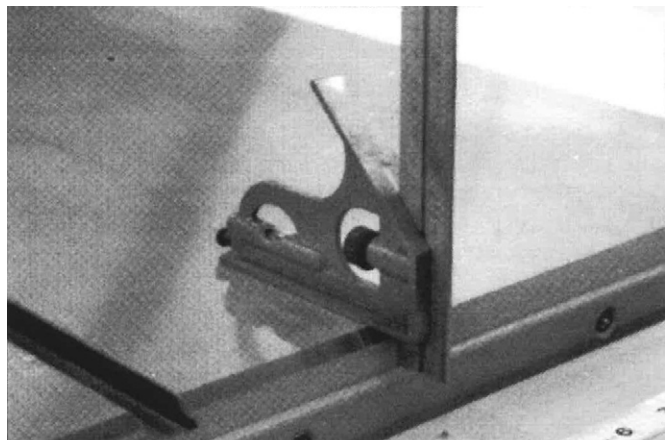

Figure 2
3. Place the combination square on the table and adjust the rail to be 9/16" below the table surface. Refer to Figure 2.